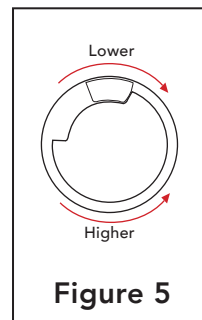

Figure 5
- a. Clockwise to lower temperature **Figure 5**
- b. Counter clockwise to increase temperature **Figure 5**